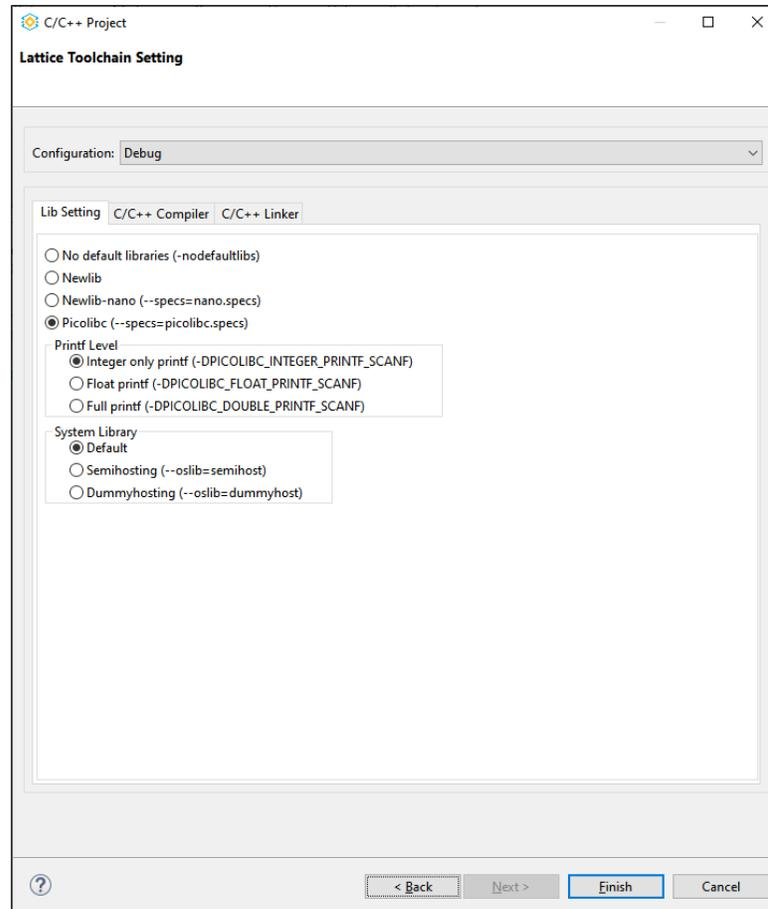

Figure 2.111. Create C/C++ Project
3. Click **Next**. The C/C++ project dialog (Figure 2.111) opens.